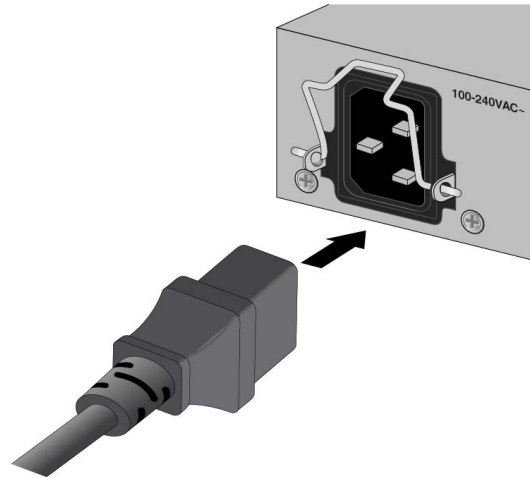

Figure 49. Connecting the AC Power Cord
2. Connect the AC power cord to the AC power connector on the rear panel. Refer to Figure 49 on page 91.